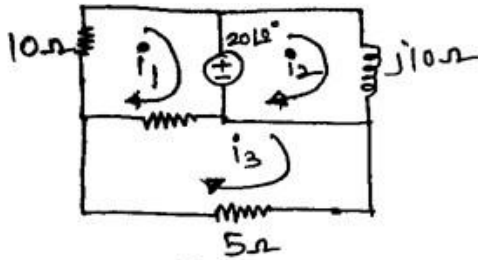

fig 3.3
4. Find the current through 5-ohm resistor shown in fig 3.3 and hence verify reciprocity theorem.
Sample circuits for the question bank given (fig 3.3 to 8.1)